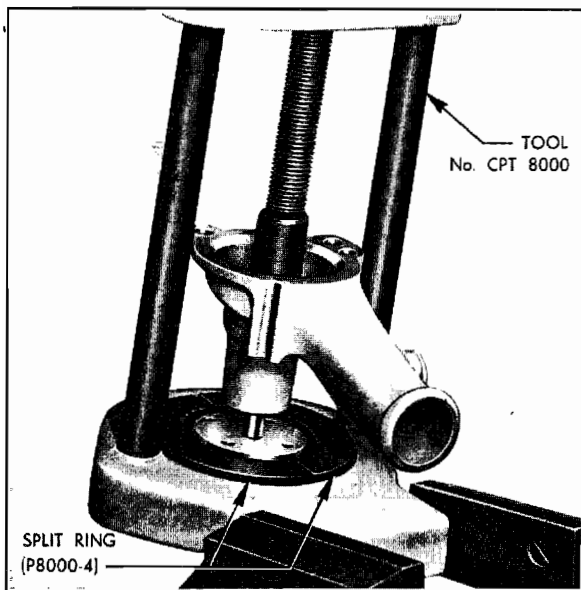

Fig. 5
3. Press the pump pulley hub on to the front end of the shaft until the end of the shaft is  $\frac{1}{8}$  in. (12.7 mm.) away from the outer front face of the hub, using adaptor details a and e as shown in Fig. 5.